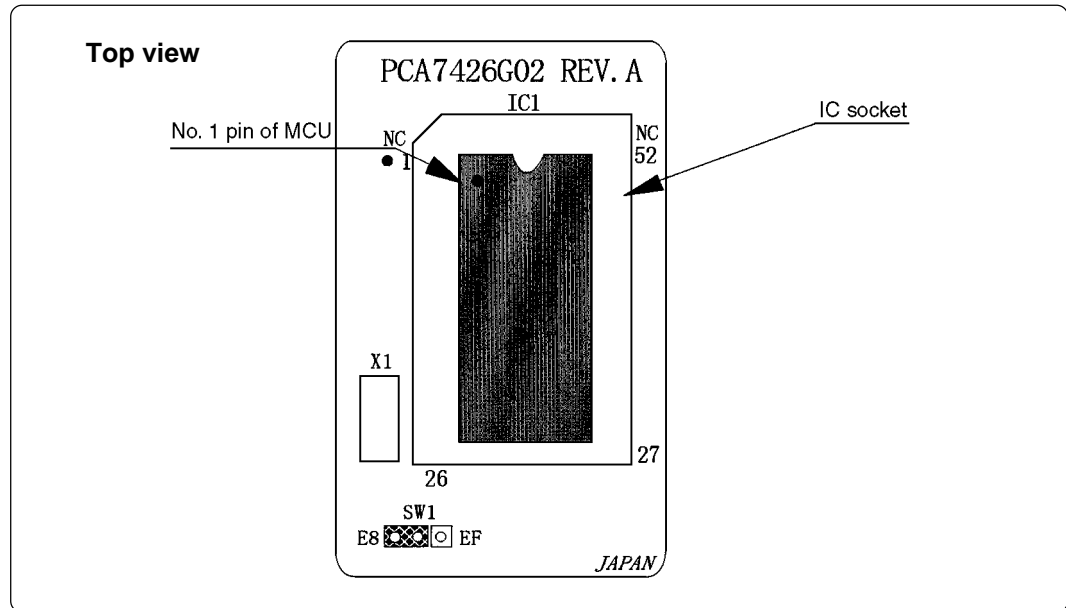

Figure 4.3 Mounting an MCU
- (1) As shown in Figure 4.3, set the slide bar in the center of the IC socket to the shaded area on the board.
- (2) As shown in Figure 4.3, mount the MCU into the IC socket with the No. 1 pin of the MCU matched to the No. 1 pin of the IC socket on the PCA7426G02.